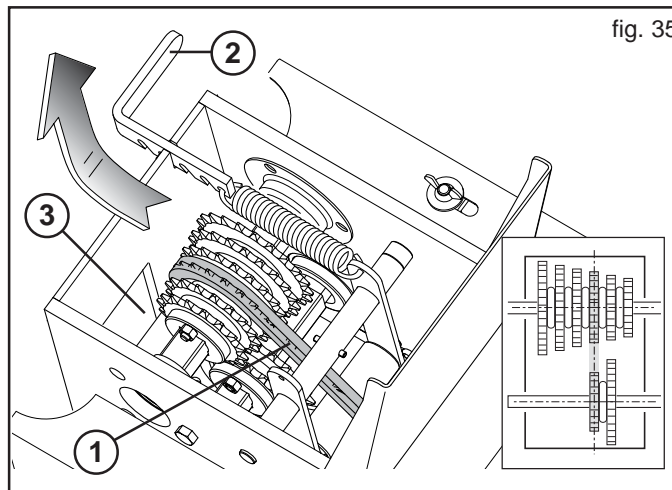

fig. 35
- To move the chain, open the gearbox cover and loosen the chain (1, Fig. 35) by means of the lever (2);
- Place the chain on the located gears and align them (Fig. 35).
- Tighten the chain again with the lever (2, Fig. 35) and close the cover.
To access the gears more easily, the lower opening may also be used (3, Fig. 35).